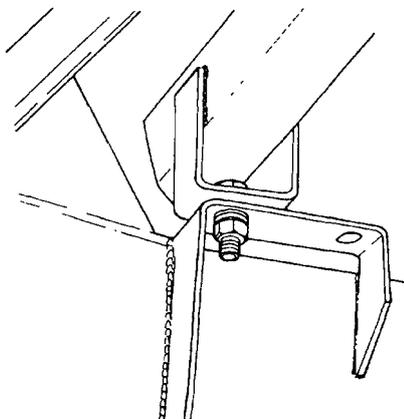

Figure 320 Removing the Body Crossmember
- jj. Remove the bolts, nuts and washers securing the rear body support brace to the chassis frame (Figure 320).
- d.** Install the nuts, washers and bolts retaining the rear body support brace (Figure 320) and tighten them securely.